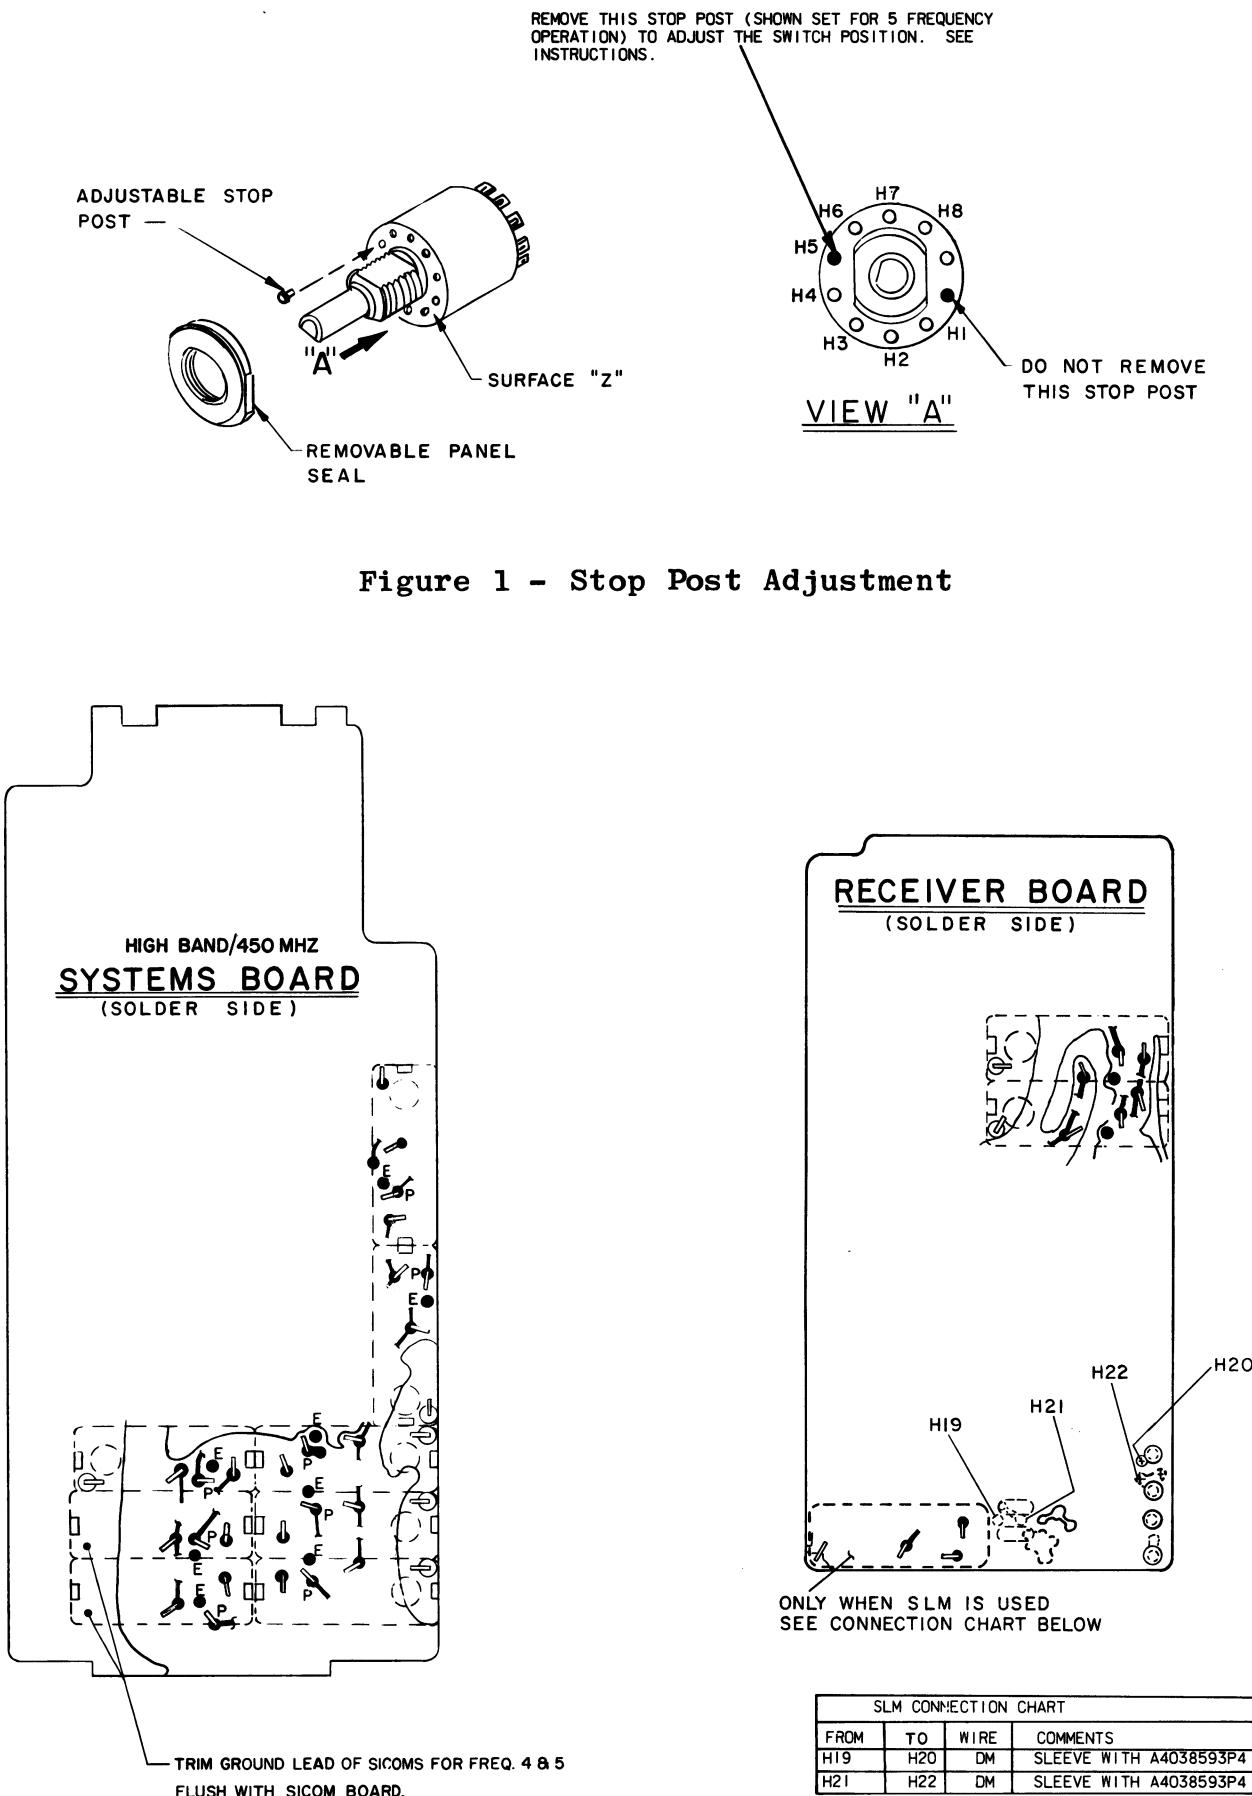
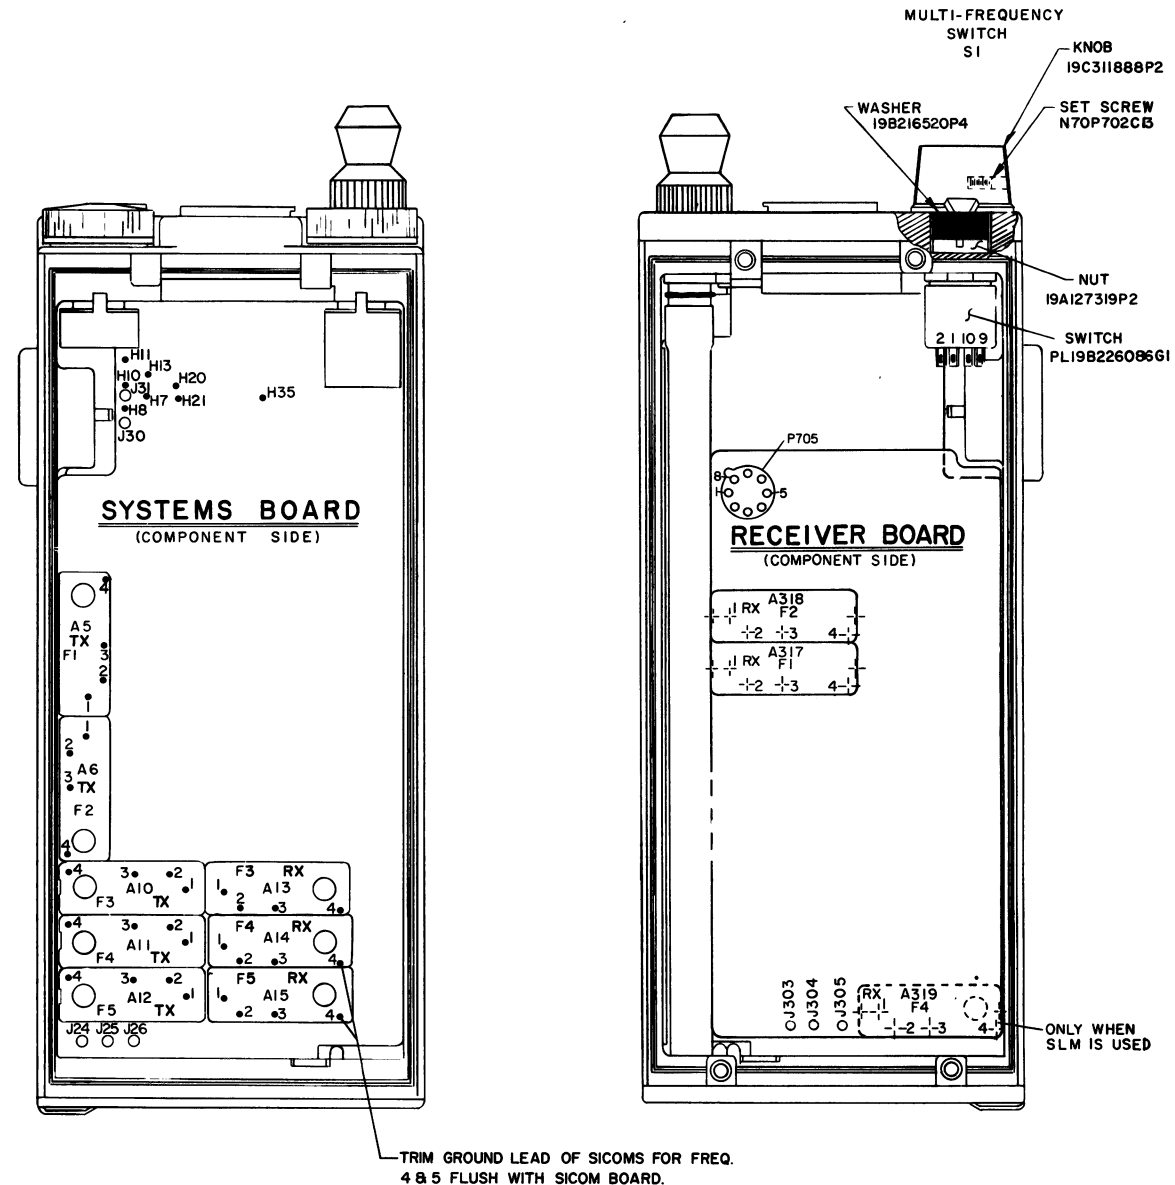

Figure 2 - Oscillator Module and Diode Installation
Figure 3 - Oscillator Mounting Positions & S1 Connection Points
2. Place the oscillator module(s) in the proper holes (see Figure 2). Then bend over tabs on the can in direction shown and solder to the adjacent pads (see Figure 3).
3. Bend the leads of the oscillator module as shown in Figure 3 (or appropriate Outline Diagram) and solder to the adjacent pads.
2. Install the oscillator(s) whose frequencies are to be repeated as directed above except solder the Number 2 pin to the "E" pad instead of the "P" pad (see Figure 3).